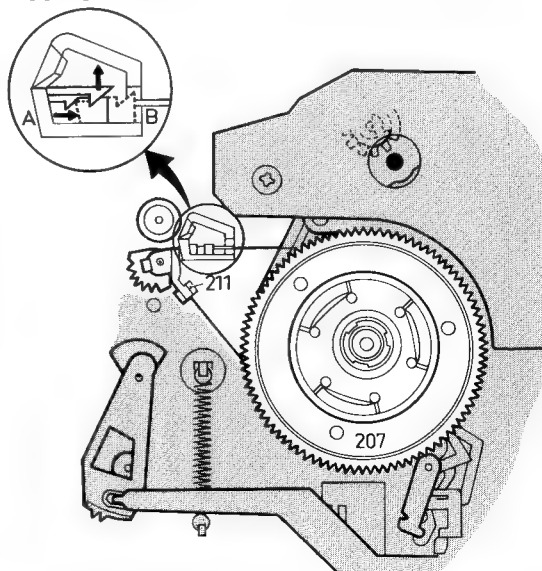

Fig. 1-10
- Demount lift pos. 201 (1.1) and Tape tension lever pos. 204 (1.5)
- Unlock brake belt block with tweezers and push from position A to position B (brake belt lies loosely around reel disc). (Fig. 1-10).
- Brake belt block in position B (Fig. 1-10)
- Pull away the fixed brake pos. 209 (213) and winding brake pos. 231d and apply the reel disc by turning it slightly to and fro until it snaps in.
- Push brake belt block in pos. A Fig. 1-10 until it snaps in.